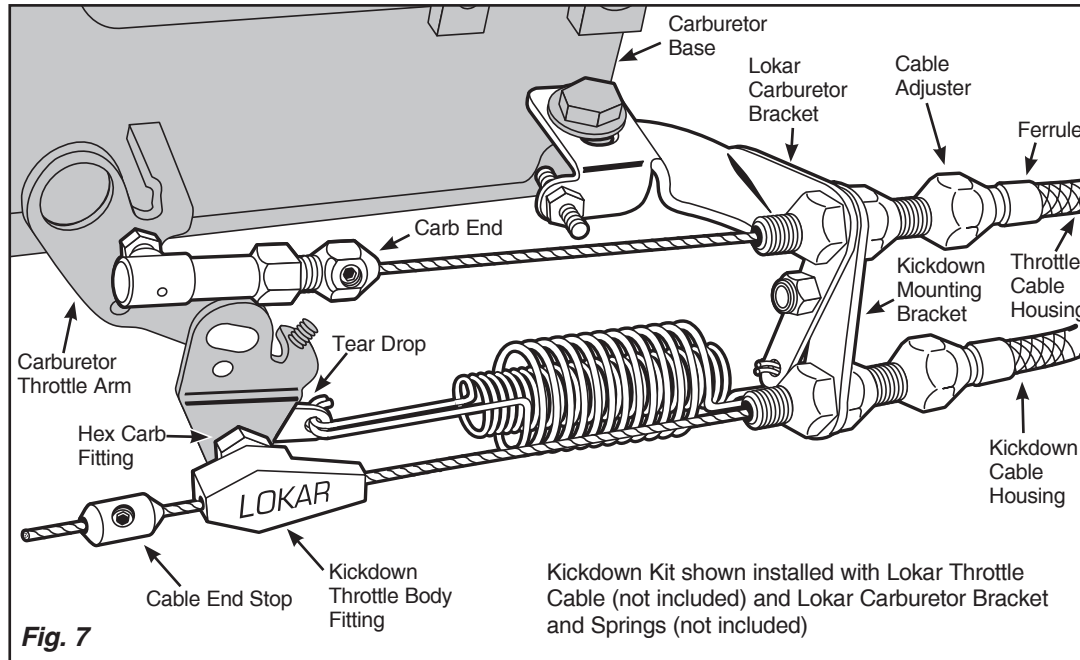

Fig. 7
Step 6: The tear drop will be attached to the carburetor throttle arm by the hex carb fitting. Separate the hex carb fitting from the kickdown throttle body fitting. Install the hex carb fitting and the tear drop onto the carburetor throttle arm as shown in Fig. 7. Hook the springs to the tear drop and tighten the nylock nut on the hex carb fitting. Then, back the nylock nut off just enough so that the tear drop can pivot freely.
Double check to be sure that all carburetor, throttle and kickdown linkage operates freely without binding. Then, test drive the vehicle. Once the Kickdown Cable is correctly adjusted and operating properly you can cut off the excess inner wire, leaving about 1/2" extending beyond the cable end stop to allow for future adjustment if needed. Final installation should look like Fig. 7 and Fig. 8.